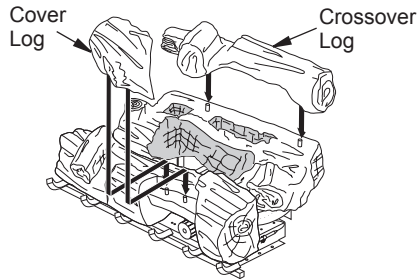

Figure 22 - Front Log Placement (Thermostat Models)
3. Place control cover log onto two pins on front log assuring the cover log seats into cutout section of front log (see Figure 22).
4. Place crossover log on pins on rear and middle log (see Figure 22).